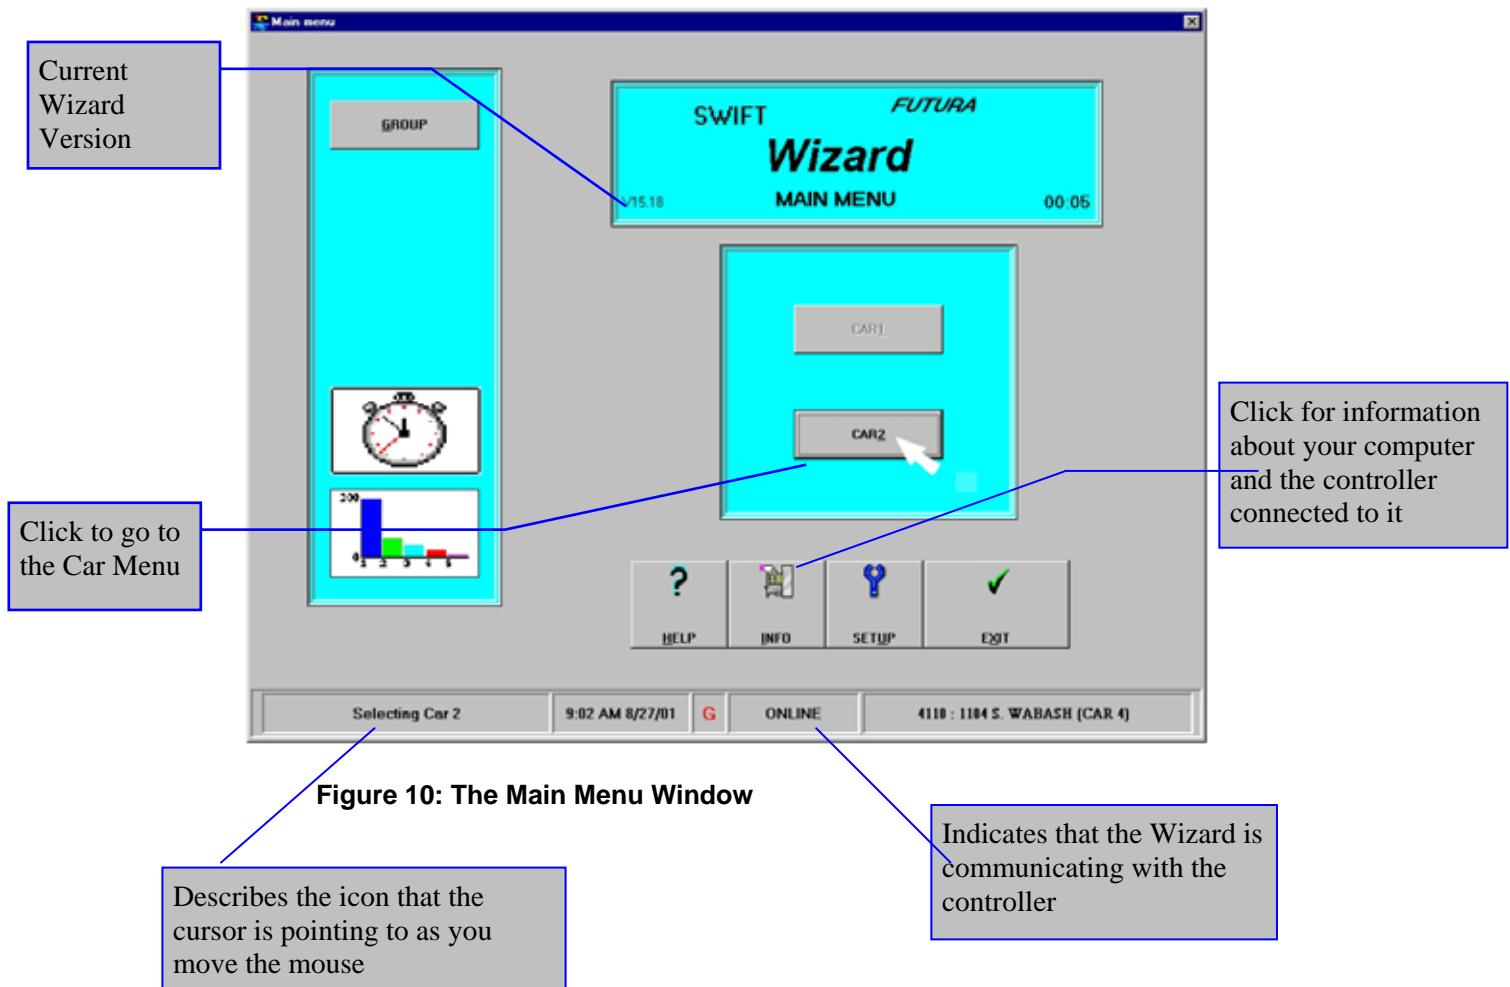

Figure 10: The Main Menu Window
3. Enter your password. After connecting and reading information from the controller, the Main Menu Window (figure 10) will appear.